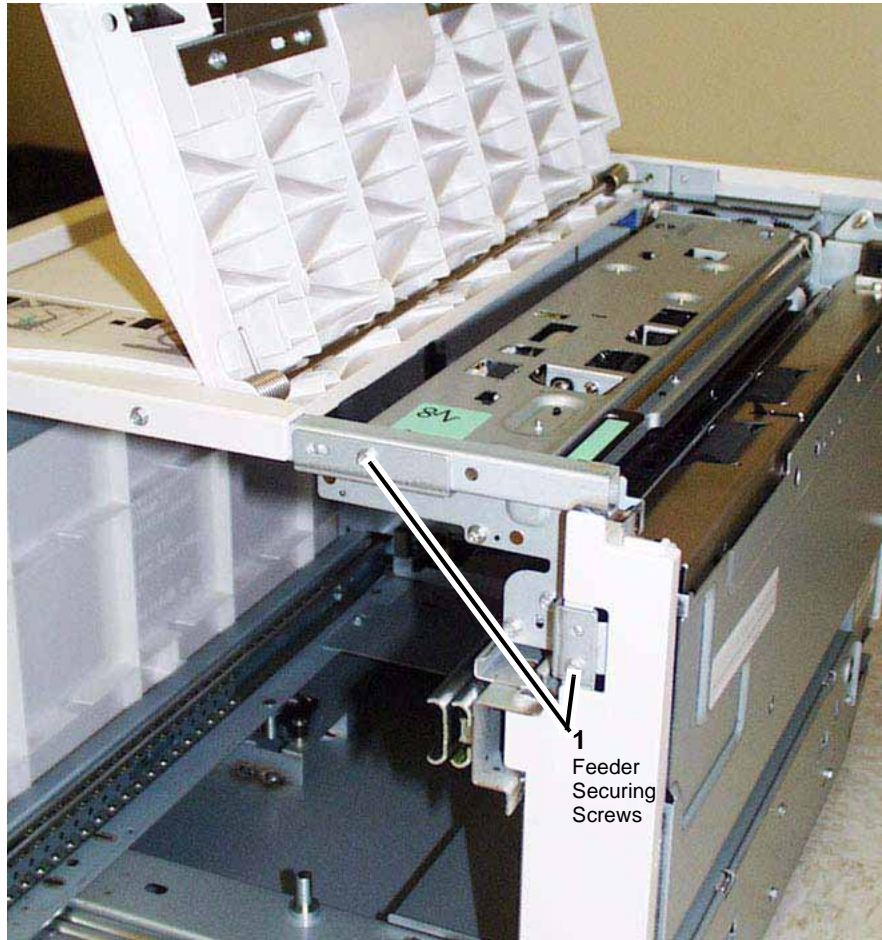

Figure 1 Feeder Securing Screws
2. Remove the (2) screws used to secure the HCF Feeder on its rail. Figure 1